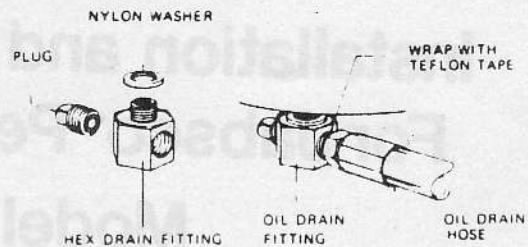

Figure 4
6. Wrap threads of hex drain fitting with teflon tape, or apply thread compound. Make sure nylon washer is in place between engine pan and hex drain fitting. Install hex drain fitting in pan securely. Wrap threads of black drain hose with teflon tape or apply thread compound. Install black drain hose in hole which will provide the most direct path to convenient hanger location on vertical bulkhead or firewall. Wrap plug with teflon tape or apply thread compound and install in remaining hole securely. (CAUTION: Oil drain fitting and oil drain hose must be tightened securely to prevent fittings from loosening and to prevent oil leak and possible engine damage. Install cap securely on free end of drain hose.) (See Figure 4)